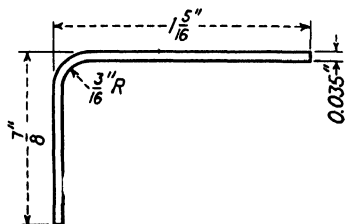

Fig. 319.—Angle of bend 90° .
85. Find the developed length of the fitting shown in Fig. 319.